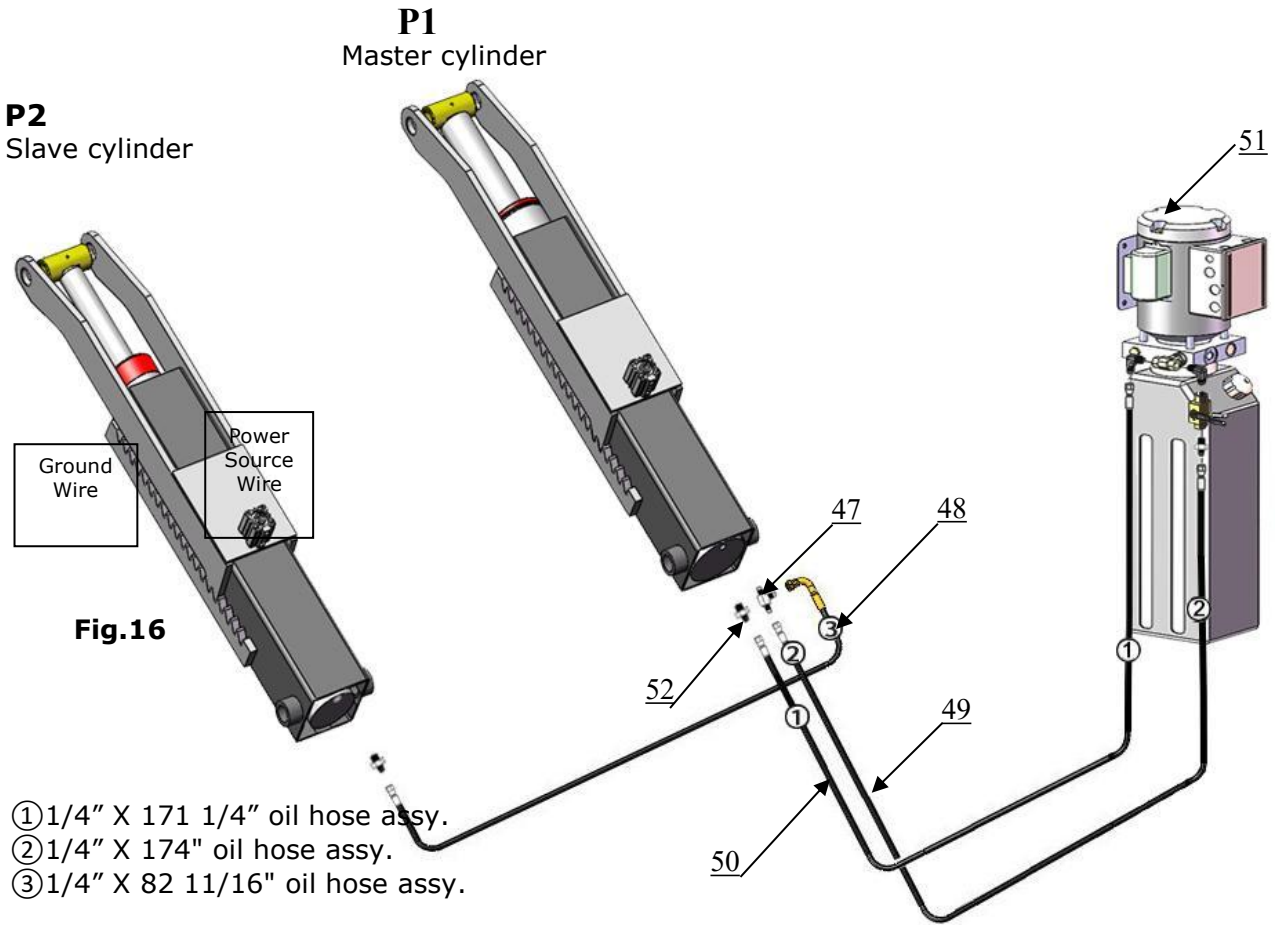

Fig. 16
6. Connect oil hoses assy. (See Fig.16)